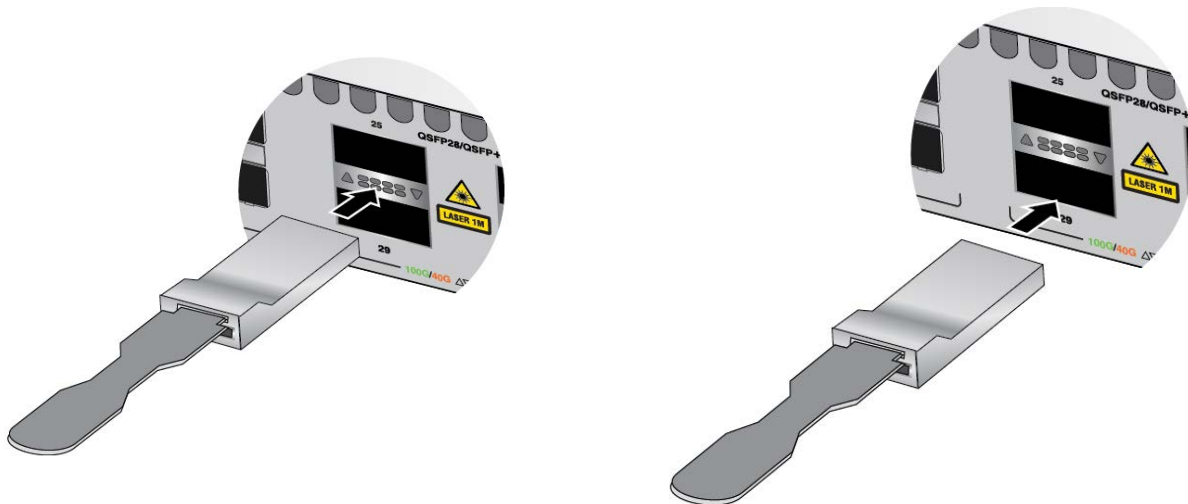

Figure 136. Installing 100Gbps QSFP28 Transceivers in Base Ports 25, 29, 33, 37
- ❑ 100Gbps QSFP28 transceivers for ports 25 to 37: refer to Figure 136.